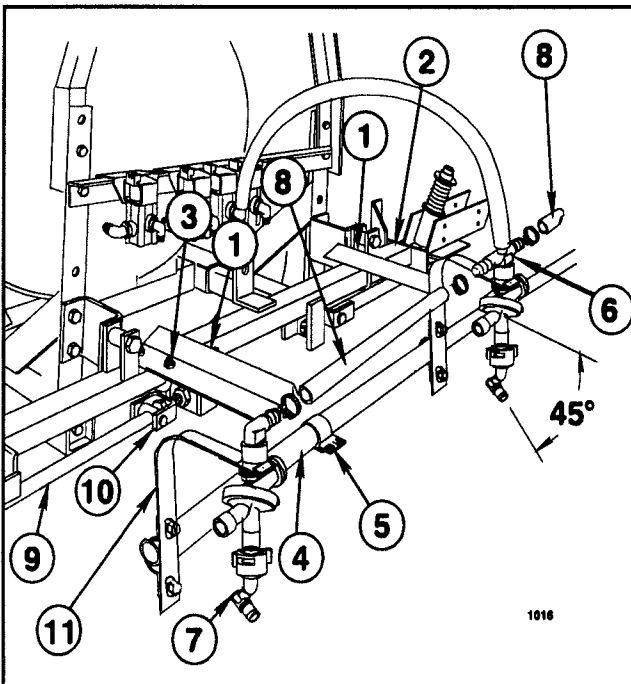

Figure 5
7. Position the two (2) Center Boom angles on the Main Frame and secure them to the Main Frame tube with two (2) square U-bolts, four (4) flat washers and hex nuts. (See FIG. 5.)
8. Center and attach the Center Boom Pipe to the two Center Boom Angles with two (2) clamps, (2) 3/8" x 1" cap screws, flat washers and lock nuts.
9. Loosely attach the triple barb Nozzle Body with the Nozzle Body Bracket Assembly in the approximate center of the Center Boom Pipe. For the most uniform spray coverage, position all Nozzle Assemblies at a 45° angle as shown in FIG. 5. Tighten fasteners to secure the Nozzle Body to the Boom Pipe.
11. Attach the two Strut Assemblies to the two adjustable clevis' found on each side of the Main Frame tube with two (2) 1/2" x 2" clevis pins and two (2) 1/8" x 1" cotter pins. (See FIG. 5)
17. Adjust the Booms to a level position by adjusting the jam nuts on the adjustable clevis assemblies (See FIG. 5) to the desired position, then tighten the end nuts against the Main Frame plate.